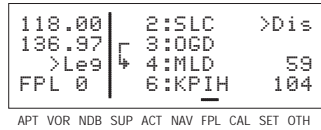

Figure 4-30
- If the flight plan contains more waypoints than can be displayed on the screen at one time, the page will automatically scroll as progress is made along the flight plan so that the active leg is always displayed (figure 4-30).